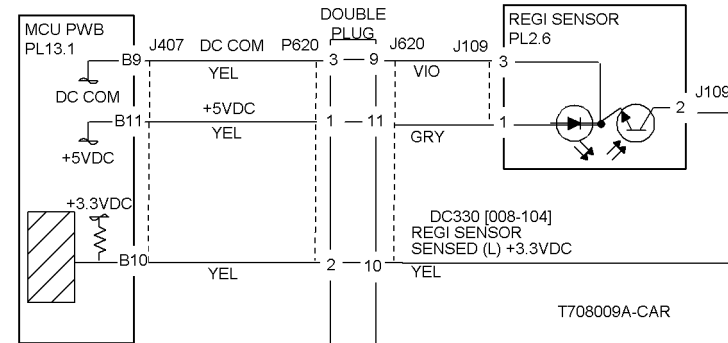
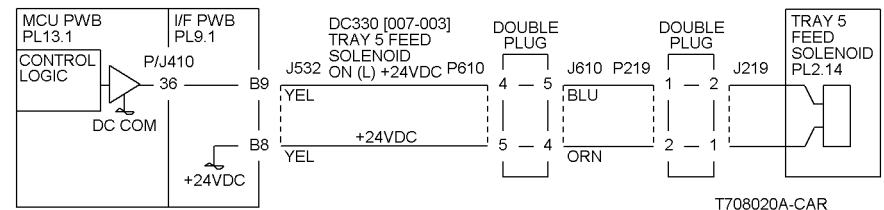

Figure 1 8-175 RAP Circuit Diagram - Registration Sensor
Figure 3 8-175 RAP Circuit Diagram - DC3535 Tray 5 Feed Solenoid
Press **Stop**. Check the circuit of the Tray 5 Feed Solenoid (Figure 3). Refer to the OF 99-4 RAP for troubleshooting procedure.
- Ensure that the connectors shown in the circuit diagrams (Figure 1, Figure 3) are securely connected and that the wires are not damaged.